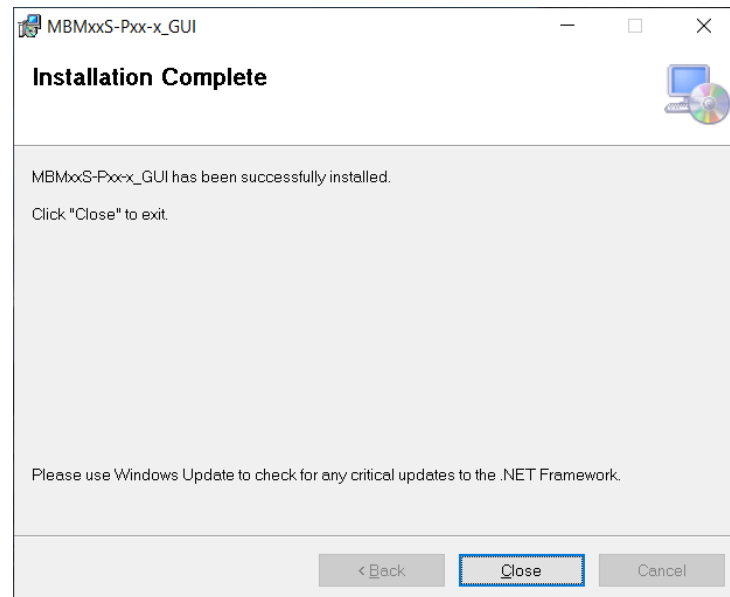

Figure 21: GUI Set-Up Success
4. Wait for the status screen to verify that installation is complete (see Figure 21).